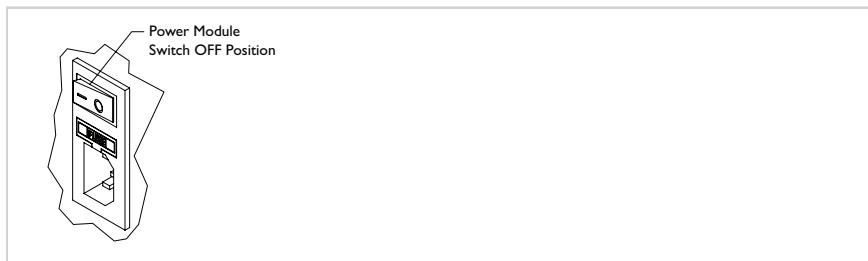

Figure 2: Power ON/OFF Switch
- Push the Power Module ON/OFF switch to the OFF position. See Figure 2.